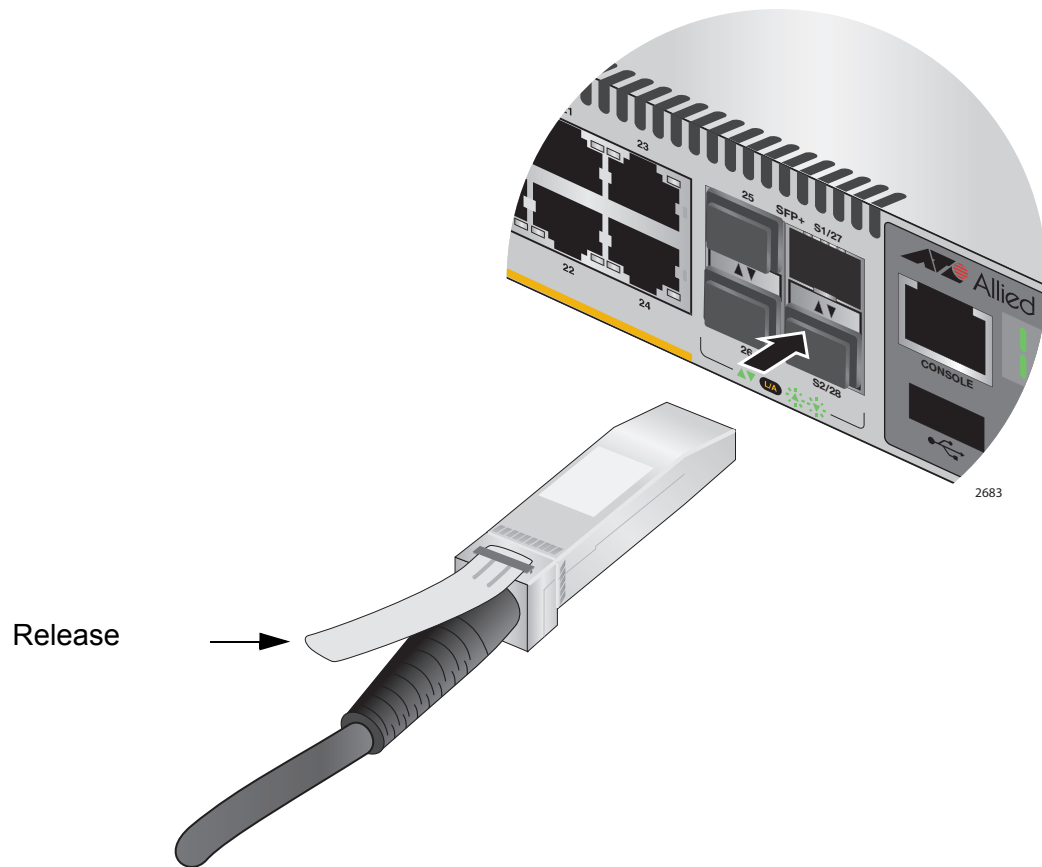

Figure 58. Installing the AT-StackXS/1.0 Transceiver in Slot S1
4. Position the transceiver with the release tab on top and slide the transceiver into the slot, as shown in Figure 58 on page 98.